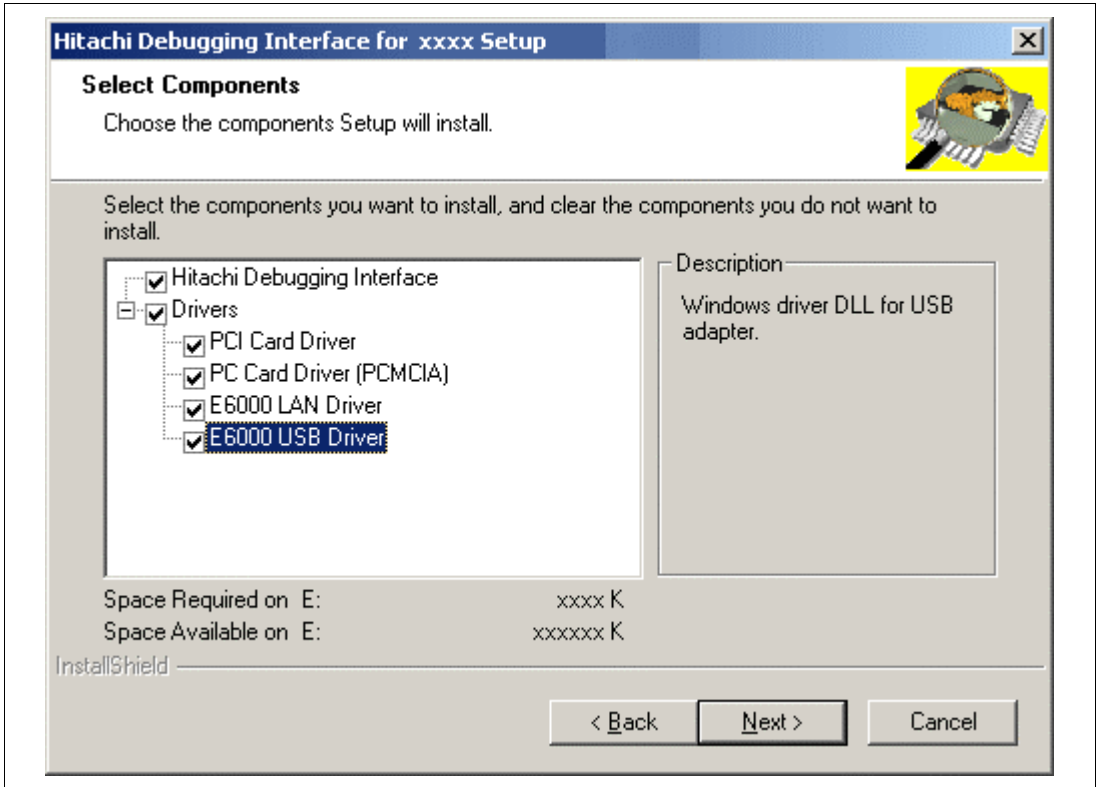

Figure 7 [Select Components] Dialog Box
1. Figure 7 is a dialog box for installing the E6000 HDI.